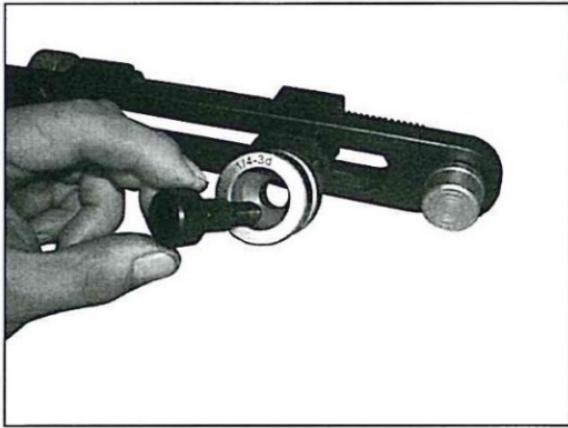

Figure 5-6
5. Attach the appropriate matching die to the bottom of the handle with the bolt slipping into the recessed side of the die set as seen to the right in fig 5-6. This becomes your "following die".